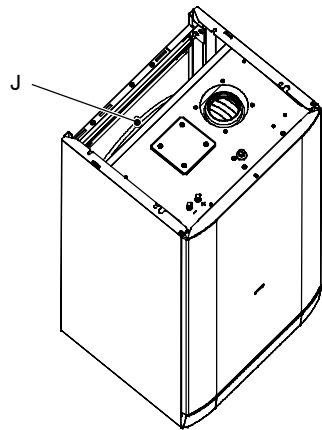

Fig. 55
- 2 Remove the protective cap J (Fig. 55) from the valve on the top of the expansion vessel and connect a suitable air pressure gauge.